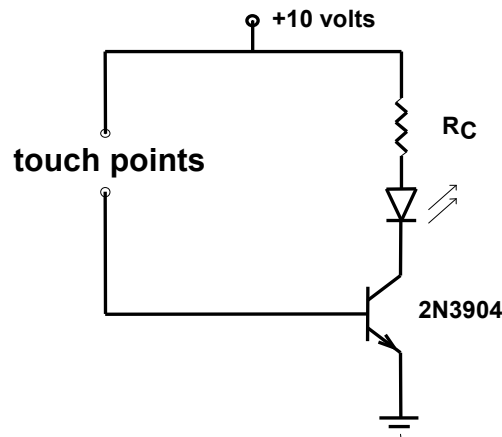
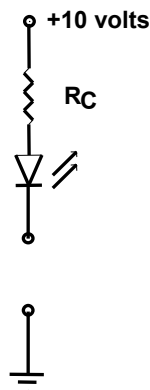

Figure 3. A touch sensitive switch: $R_C = 1 \text{ k}\Omega$
Figure 4. Non-amplified touch switch: Will it work?
Using the BJT with the highest β , build the circuit in Figure 3. At the two terminals marked “touch points”, insert two bared wires into your protoboard in a place where they can be easily touched with your finger.
k. **If you completed a circuit --consisting only of an LED and a 10 V source-- with your finger, how much current would flow through the LED (see Fig. 4)? Would the LED emit visible light? Comment on the importance of the BJT in the circuit shown in Fig. 3.**